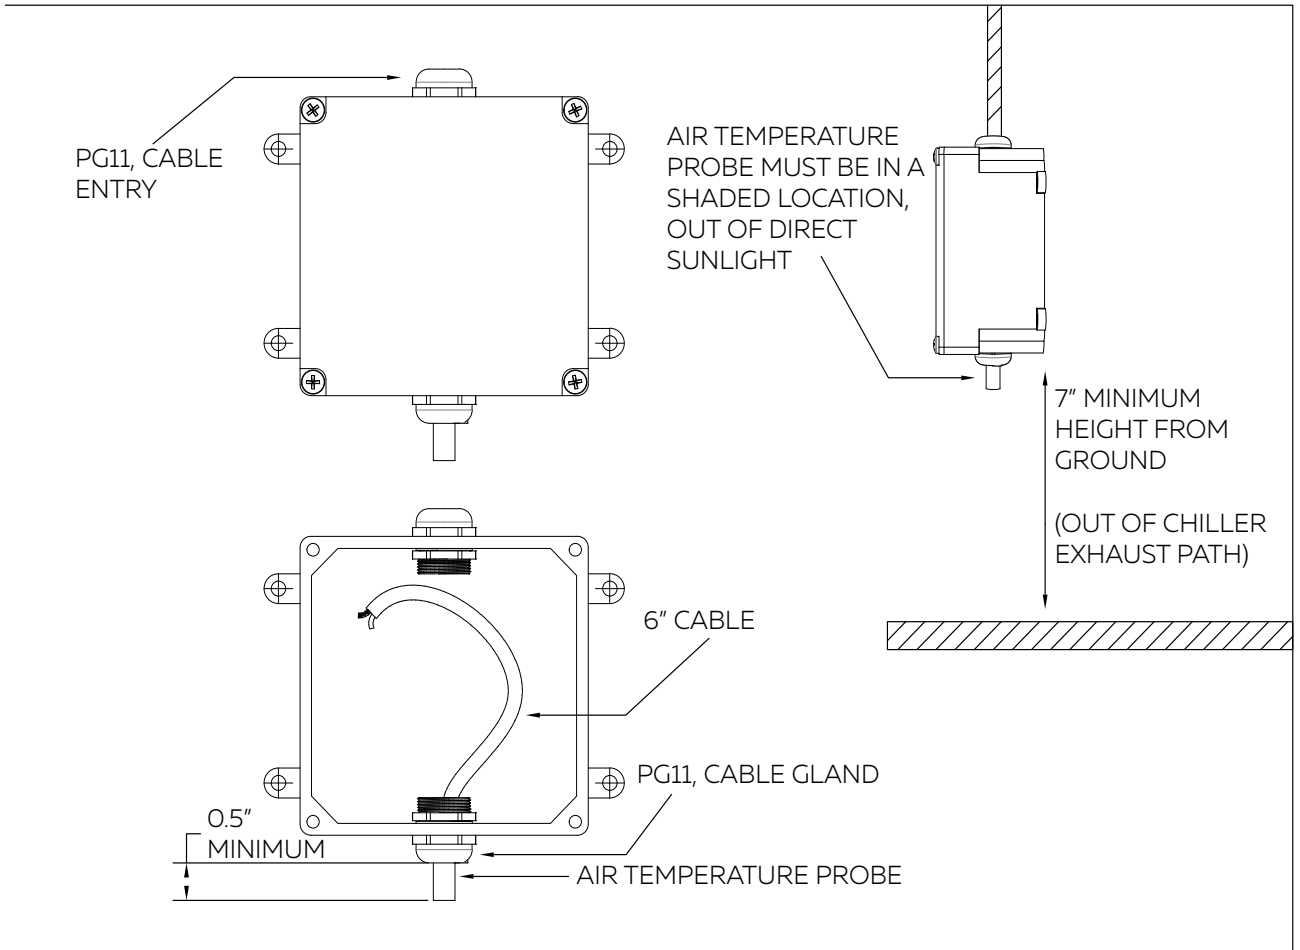

Figure 3 - Junction box with air temperature probe mounting diagram
2. Junction box (includes air temperature probe and two (2) wire nuts) (**figure 3**)
The junction box containing the external air temperature probe should be mounted in a location that is shielded from direct sunlight and out of the wind, as shown in **figure 3**. The junction box should be mounted in an orientation such that the air temperature probe points down, so that snow and ice will not accumulate around or on the air temperature probe. Connections to the probe should be weather proof. See **figure 3** for recommended mounting distances and a detailed view of the junction box with air temperature probe. Terminations to the probe leads are then made inside the junction box using the included wire nuts.